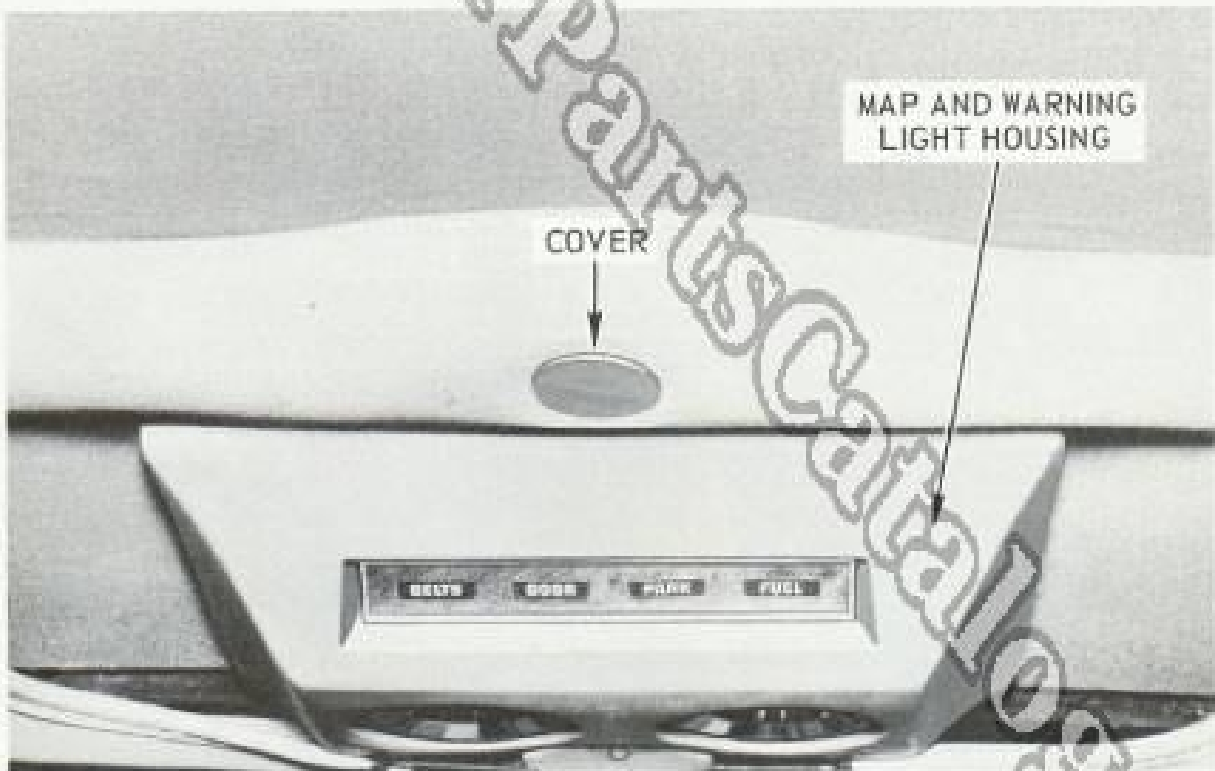

Fig. 10 – Auxiliary Drive Cover
The sun roof panel may be closed manually in case of electrical power failure. Should the power actuation fail, remove the auxiliary drive cover which is located in the middle of the headlining close to the front edge of the roof opening. (See figure 10). To remove the cover, grasp with fingers and pull outward. Then remove the screw which is visible when the cover is removed.
2. *Remove both sun visor assemblies and center sun visor bracket. Remove the map and warning light housing if so equipped. (Refer to figure 10 and 11).
8. *Remove both sun visors and center bracket. Remove the map and warning light housing if so equipped. (Refer to figures 10 and 11).